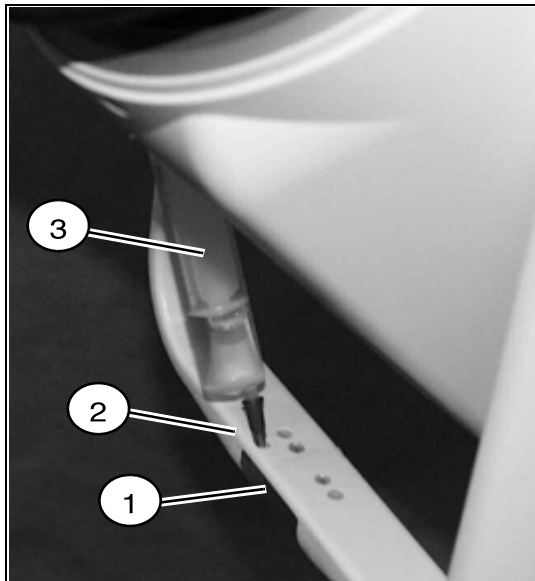

Fig. 74: Phantom 2
- Check whether the isocenter phantom (1/Fig. 74 / p. 71) is filled with water. If not, remove the screw (2/Fig. 74 / p. 71) and fill in water with a syringe (3/Fig. 74 / p. 71). There may not be any air bubbles. Screw in the screw again.